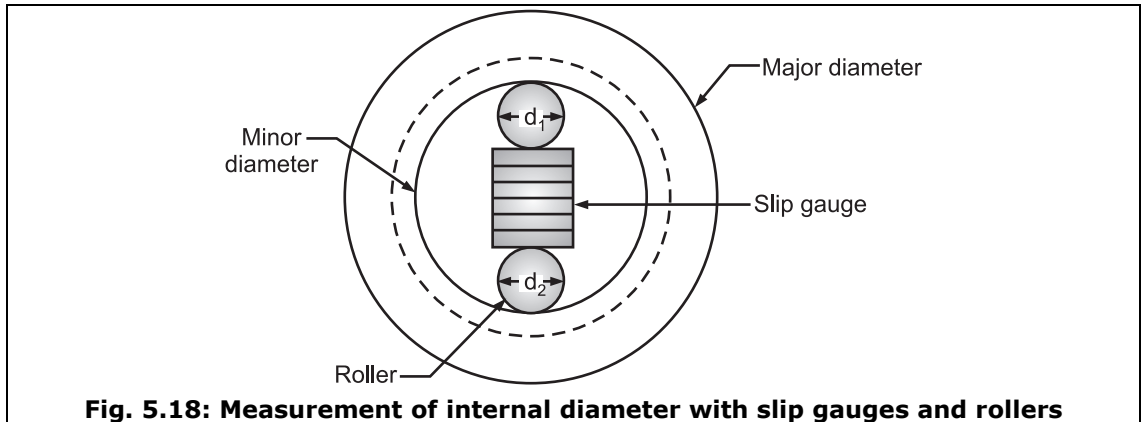

Fig. 5.18: Measurement of internal diameter with slip gauges and rollers
- Progressive pitch error is uniform and gradual, but giving pitch value either a greater or smaller than nominal value as shown in Fig. 5.18.